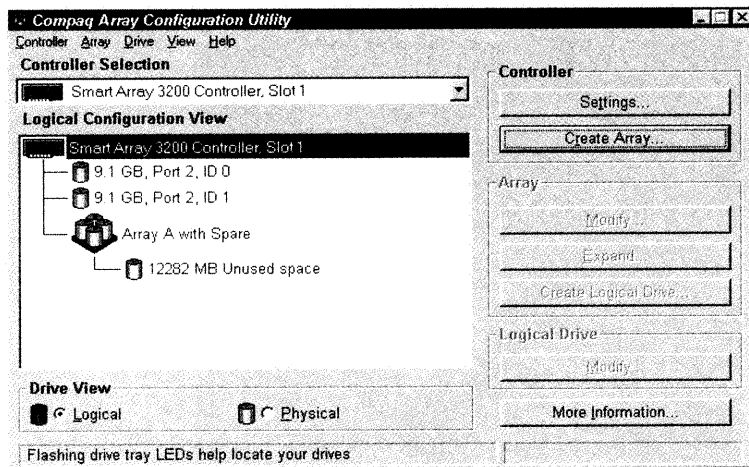

Figure 5-6. Example array - Logical Configuration View with one array
- Click the Done button to return to the Main Configuration screen. The Logical Configuration View area should look similar to Figure 5-6.